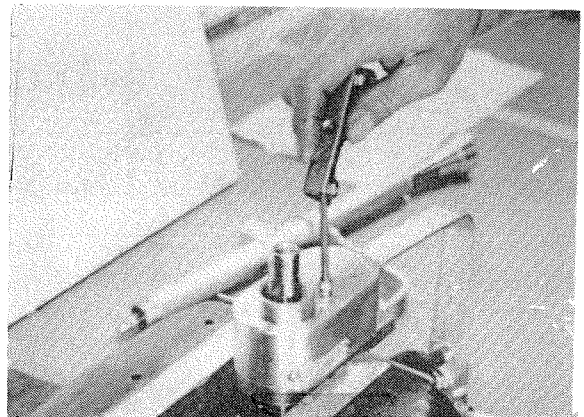

FIGURE 5-16
- D. REMOVE SCREWS, (ITEM #30), AND BELT DRIVE COVER, (ITEM #3). SEE FIGURE 5-16.